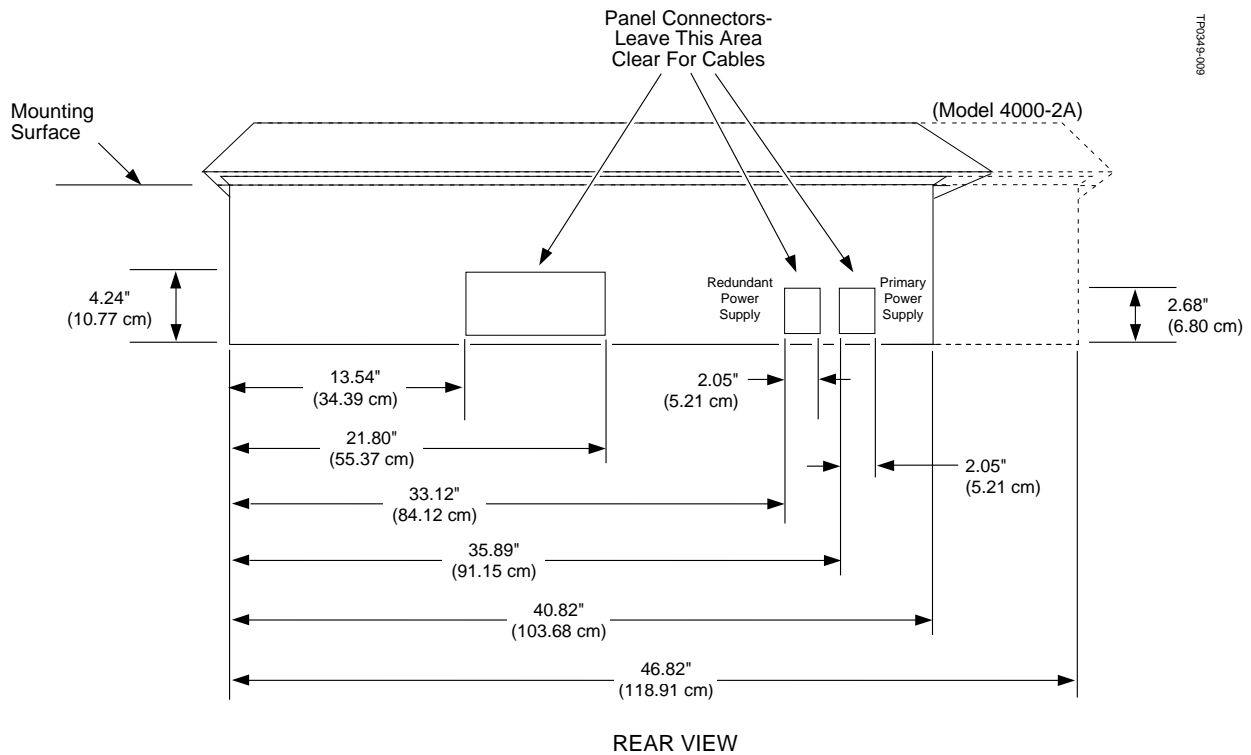

Figure 2-4. Required Cable Clearance
1. Using the dimensions shown in Figure 2-4, make cutouts in the rear of the console platform appropriate for your switcher model.